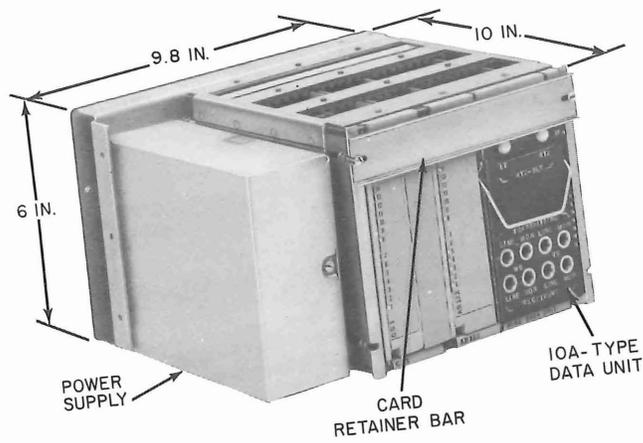

Fig. 6—Data Auxiliary Set 806B-Type—Front View
2.07 The DAS 806B7 or 806D1 (Fig. 6, 7, 8, and 9) used as a part of a wideband data station will be mounted directly above the DS 303. The 26A power unit is part of DAS 806B7 or 806D1.